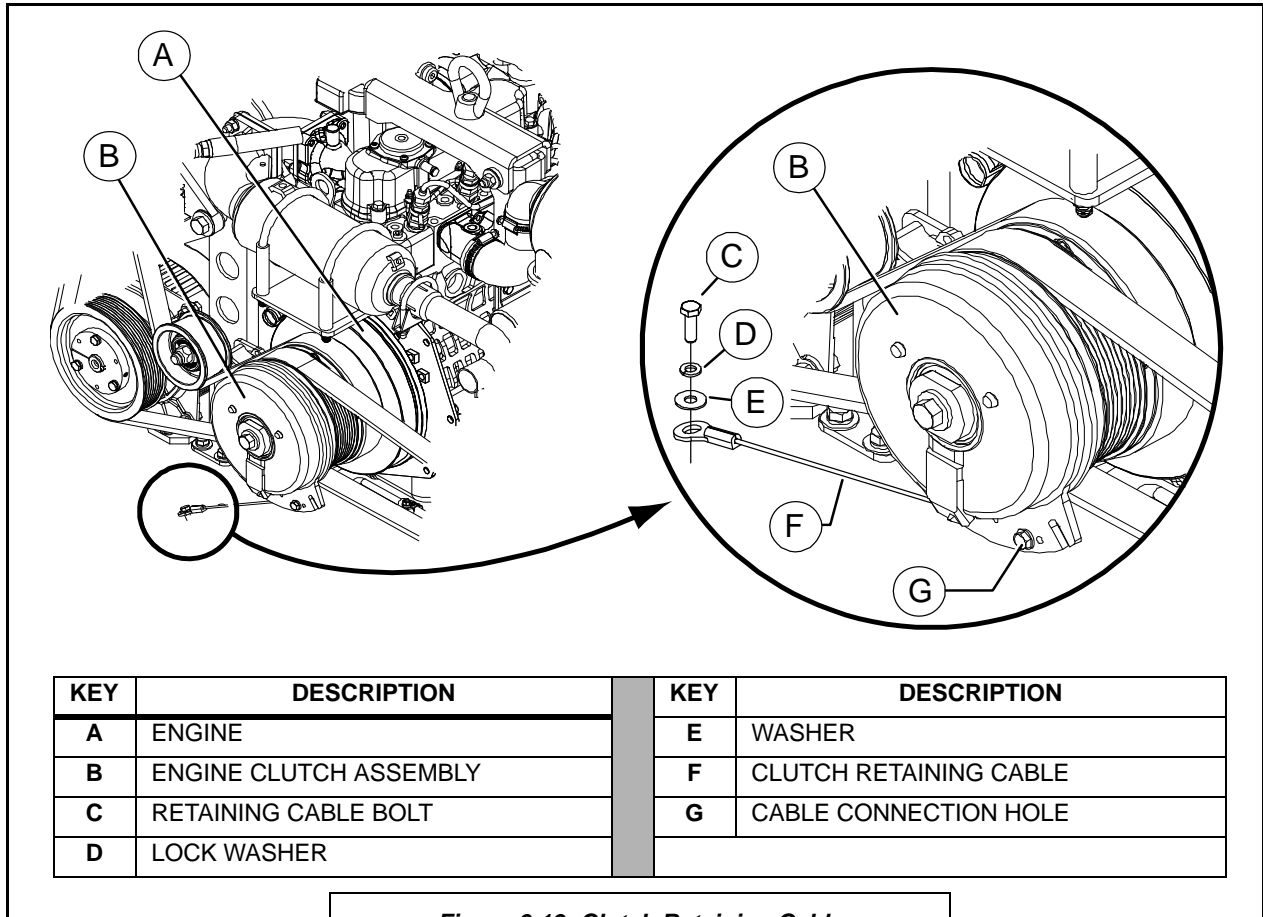

Figure 6-19: Clutch Retaining Cable
To replace the air compressor serpentine belt consult **Figures 6-19** and **6-20**, and the following procedure:
- Locate the clutch retaining cable ([F] in **Figure 6-19**) secured to the base floor of the machine near the clutch apparatus of the engine.
3. Unfasten the clutch retaining cable [F] (*Figure 6-19*) by removing the retaining cable bolt [C], lock washer [D], and washer [E] securing the cable to the floor. Retain parts for reassembly.
5. Reposition the clutch retaining cable [F] (*Figure 6-19*): apply washer [E], lock washer [D] and retaining cable bolt [C]. Tighten the bolt securely.
To replace the generator serpentine belt consult **Figures 6-19** and **6-22**, and the following procedure:
2. Locate the clutch retaining cable ([F] in **Figure 6-19**) secured to the base floor of the machine near the clutch apparatus of the engine.
3. Unfasten the clutch retaining cable [F] (**Figure 6-19**) by removing the retaining cable bolt [C], lock washer [D], and washer [E] securing